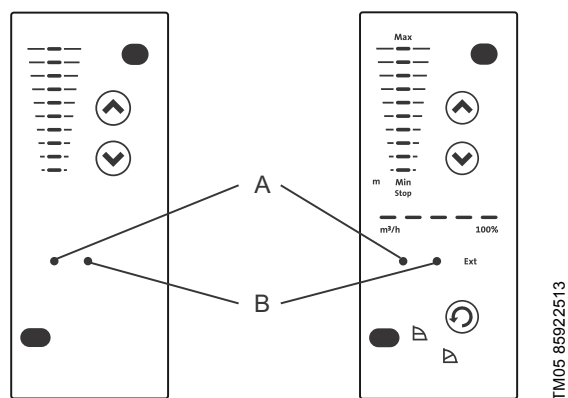

Fig. 84 Position of indicator lights
The operating condition of the pump is indicated by the green (A) and red (B) indicator lights on the pump control panel and inside the terminal box. See fig. 84.